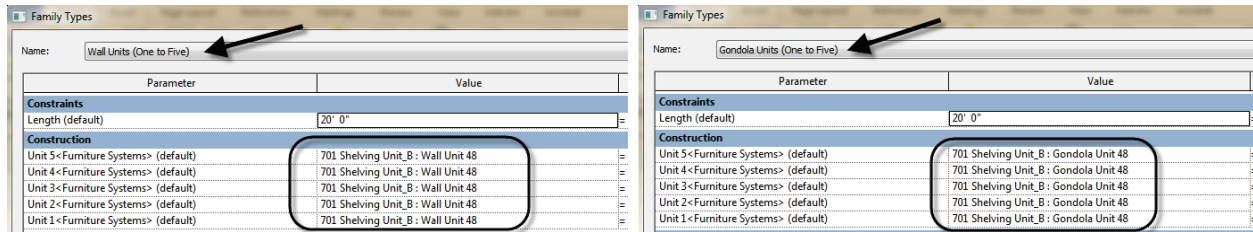

Figure 26—Create Family Types and assign default values for each Family Type parameter
10. Repeat for the other four units, dimensioning from Center Left/Right to right side of the unit each time and label each one Unit 2 through Unit 5 (see Figure 26).
13. Add two Family Types named: **Wall Units (One to Five)** and **Gondola Units (One to Five)**. Set the values of each of the “Unit” parameters to the 48" Wall size for the Wall type and the 48" Gondola size for the Gondola type (see Figure 26).